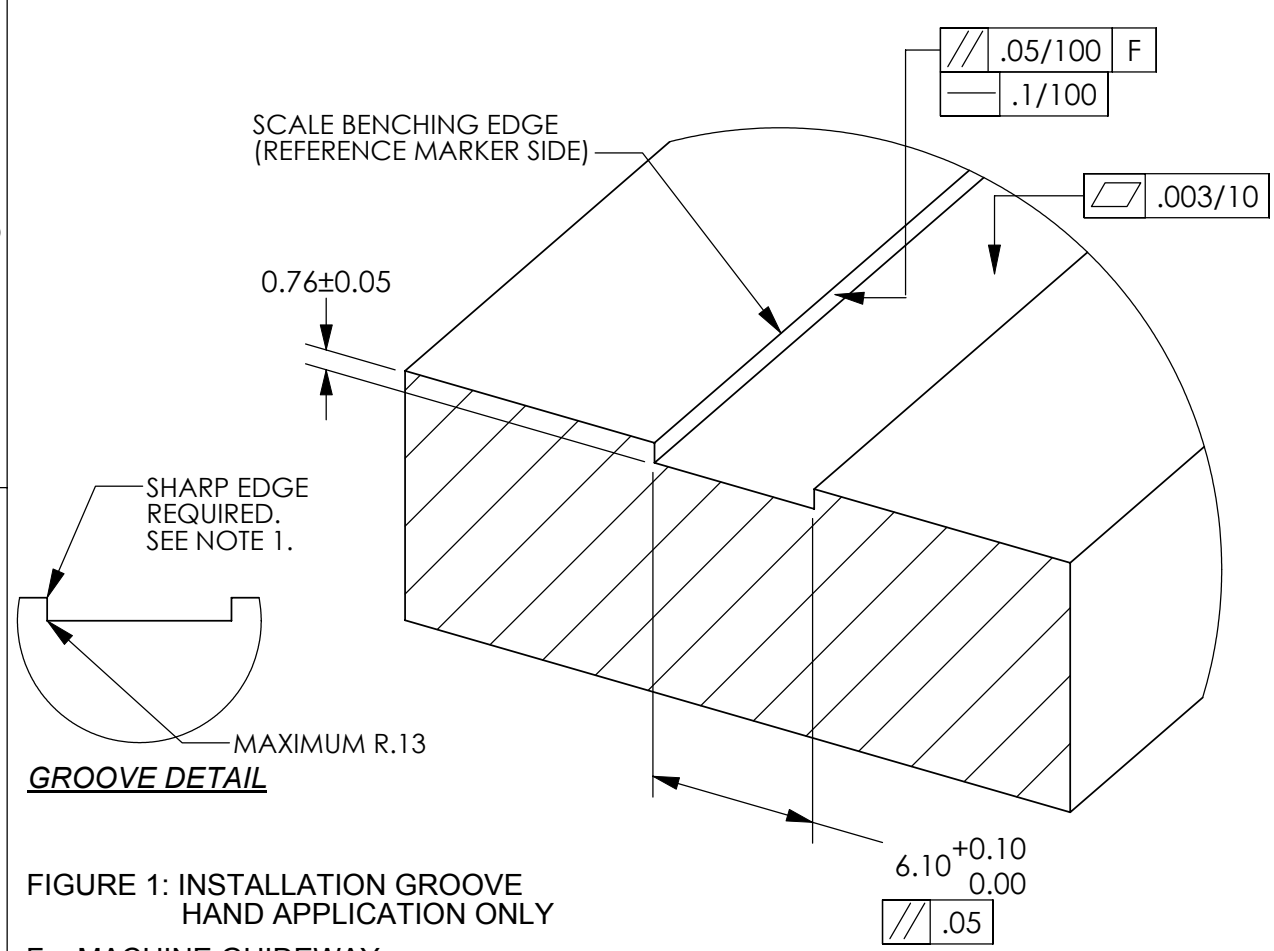
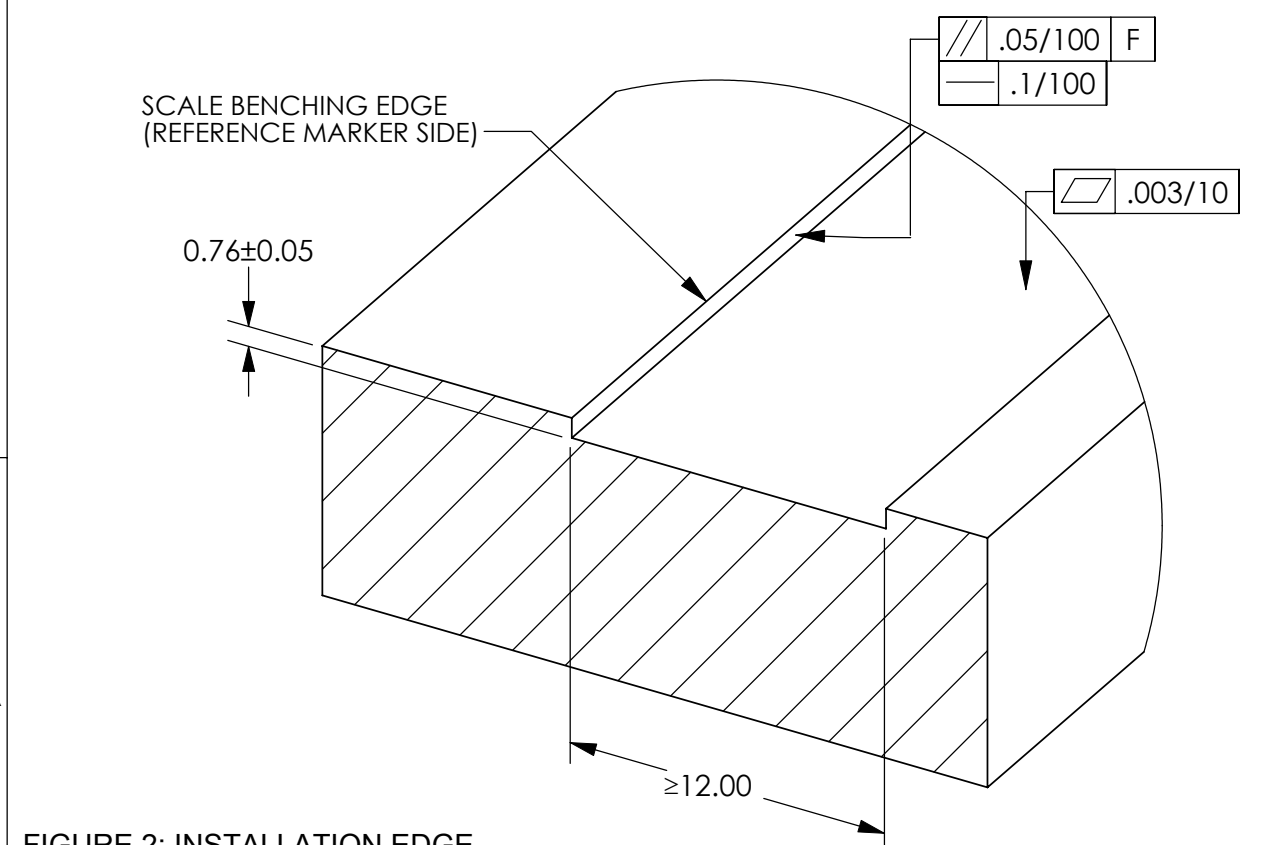
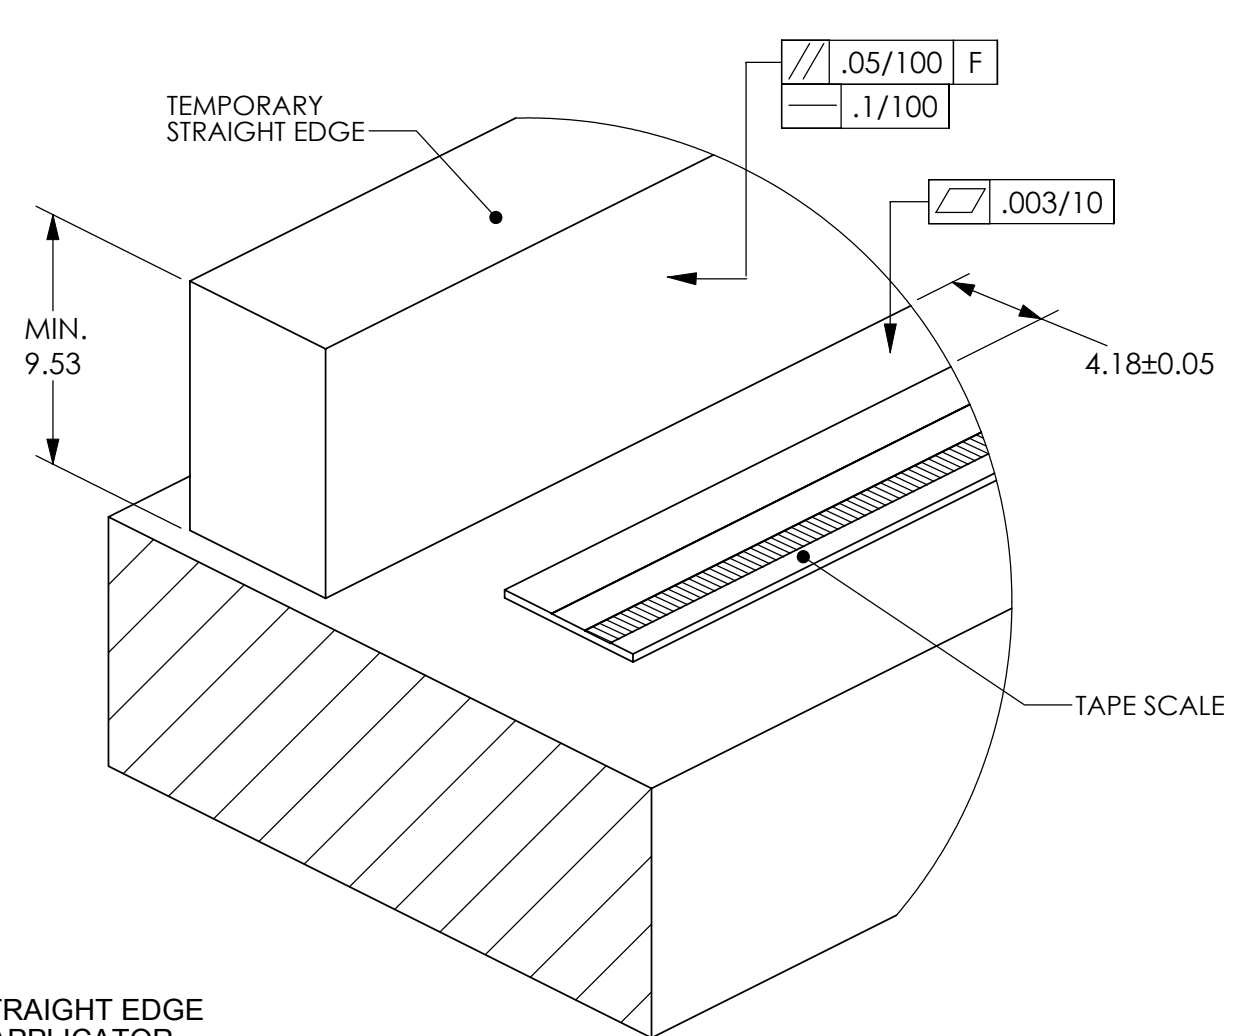

FIGURE 1: INSTALLATION GROOVE
FIGURE 2: INSTALLATION EDGE
FIGURE 3: INSTALLATION STRAIGHT EDGE
3. THE INSTALLATION METHOD SHOWN IN FIGURE 1 SHOULD INVOLVE HAND INSTALLATIONS ONLY. THE APPLICATOR TOOL IS NOT COMPATIBLE WITH THIS METHOD. IN ADDITION END CAPS CANNOT BE USED WITH THIS METHOD.
4. FOR APPLICATIONS WHERE MACHINING THE MOUNTING SURFACE IS NOT DESIRED, A TEMPORARY STRAIGHTEDGE CAN BE USED. A STAINLESS STEEL RULE MAY BE USED AS IN FIGURE 2 IF THE RULE MEETS THE THICKNESS REQUIREMENT. OTHERWISE, THE TEMPORARY STRAIGHTEDGE MAY BE USED AS SHOWN IN FIGURE 3.
5. IN FIGURE 3, THE OUTSIDE REFERENCE SURFACE OF THE TOOL SLIDES AGAINST THE TEMPORARY STRAIGHTEDGE, AND THE TAPE SCALE IS THEREFORE OFFSET FROM THE EDGE AS SHOWN. IF THIS OFFSET IS TOO SMALL FOR THE APPLICATION, THE CUSTOMER MAY DESIRE TO CREATE A SPACER THAN CAN ATTACH TO THE OUTSIDE SURFACE OF THE TOOL. PLEASE SEE INSTRUCTION MANUAL FOR DETAILS.
6. IN FIGURES 1 AND 2, THE SCALE BENCHING EDGE IS INTENDED TO AID THE INSTALLATION OF REFERENCE MARKERS. FOR APPLICATIONS SUCH AS IN FIGURE 3, THE CUSTOMER MAY USE A TEMPORARY BENCHING SURFACE TO INSURE THE PROPER INSTALLATION OF THE REFERENCE MARKERS. PLEASE SEE INSTRUCTION MANUAL FOR DETAILS. THE EDGE OF THE GROOVE OR STRAIGHTEDGE MUST BE SHARP ON BENCHING SIDE IN ORDER FOR APPLICATOR TO USE AS A GUIDE. IN ORDER FOR THE TAPE SCALE TO MOUNT CLOSE TO THIS EDGE, A MAXIMUM RADIUS OF .13 SHOULD BE USED WHERE THE EDGE MEETS THE BOTTOM OF THE MOUNTING SURFACE.